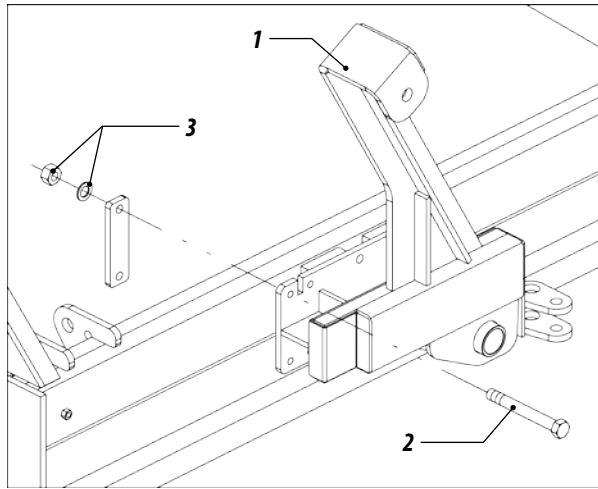

Figure 12
27- Attach the wheelset bracket (1) to the seed drill frame through screws (2), nuts and washers (3), figure 12.